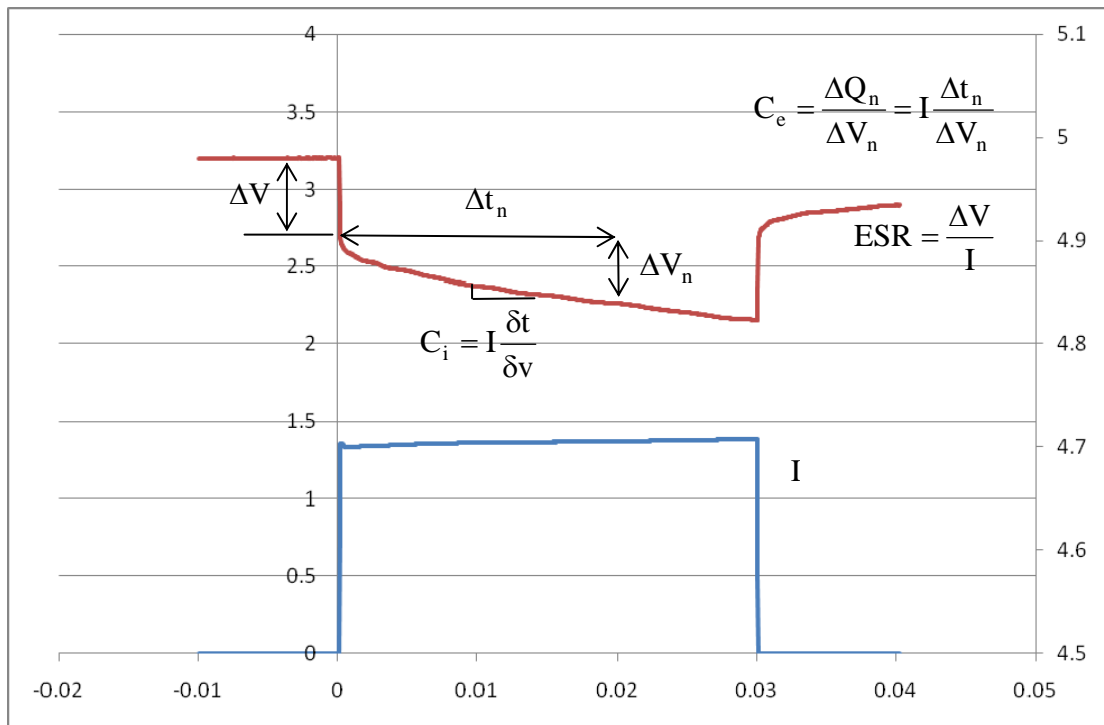

Figure 2: definitions for Effective Capacitance, Instantaneous Capacitance and ESR
In its simplest form, the Equivalent Series Resistance (ESR) of a capacitor is the real part of the complex impedance. In the time domain it can be found by applying a step discharge current to a charged capacitor as in figure 2. In this figure the supercapacitor is pre-charged and then discharged with a current pulse (I). The ESR is found by dividing the instantaneous voltage step (ΔV) by I. The instantaneous capacitance (C_i) can be found by taking the inverse of the derivative of the voltage and multiplying it by I. The effective capacitance (C_e) is found by dividing the total charge removed from the capacitor (ΔQ_n) by the voltage lost by the capacitor (ΔV_n). Note that ΔV , or IR drop, is not included because very little charge is removed from the capacitor during this time. C_e shows the time response of the capacitor and it is useful for predicting circuit behavior in pulsed applications.
In the example of Fig 2, using an HS206, $\Delta V = 4.97V - 4.89V = 0.08V$, $I = 1.34A$, so $ESR = 0.08V/1.34A = 59.7m\Omega$. Similarly for a $\Delta V_n = 4.88V - 4.83V = 0.05V$, $\Delta t_n = 0.02s$, and $I = 1.4A$. Therefore, $C = 1.4A \times 0.02s/0.05V = 560mF$.